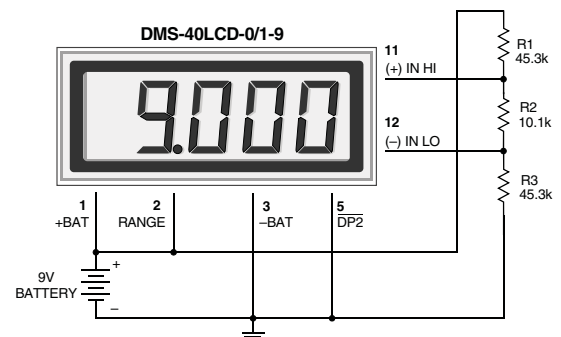

Figure 8. Power Supply Monitor (9V-Powered Models)
6. Power Supply Monitoring: A popular application for DATEL's low-power LCD meters is monitoring the supply voltage in battery-operated portable equipment. Figure 8 demonstrates how a 9V-powered DMS-40LCD can be used to monitor its own supply. The meter used is the DMS-40LCD-0/1-9 configured for its $\pm 2\text{V}$ input range (pin 2 connected to pin 1). A three-resistor voltage divider is used to attenuate the battery voltage and also to satisfy the requirement that the input voltages applied to pins 12 and 11 be at least 1.5 Volts above and below the battery voltage applied to pins 1 (+BATTERY) and 3 (-BATTERY). The divider should be designed so that 1/10th the battery voltage falls across the inputs to the meter.